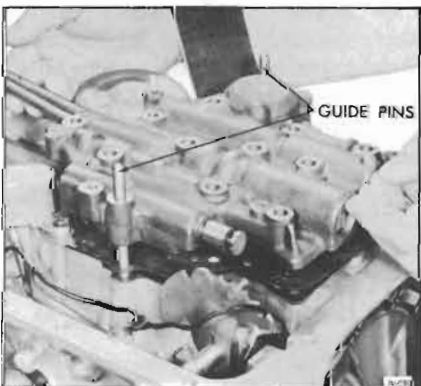

Figure 74-783
3. Install two guide pins (control valve assembly attaching bolts with heads removed). See Figure 74-783.